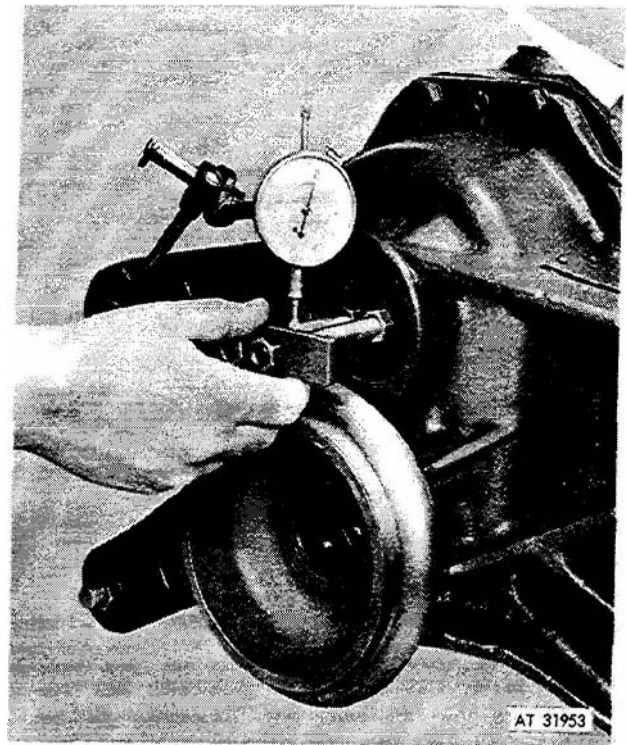

Figure 3-157. Checking center differential backlash.
(19) Position a dial indicator on differential housing (15, fig 3-141) and place stem of the dial indicator on pinion (41) as shown in figure 3-157. Move pinion slightly to feel backlash (movement between gear teeth) and monitor dial indicator backlash reading. Backlash should be 0.006 - 0.012 of an inch. To decrease backlash remove a shim (16, fig 3-141) from under housing (17) and place it under housing (50). To increase backlash remove shims (49) from under housing (50) and place it under housing (17). Remove dial indicator.